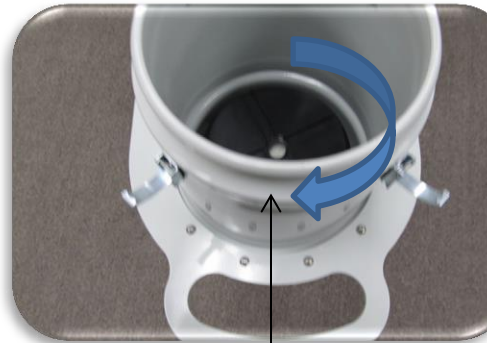

Figure 6:
3. Place the new 3rd stage HEPA filter into the upper housing and rotate clockwise to lock. **Figure 6**